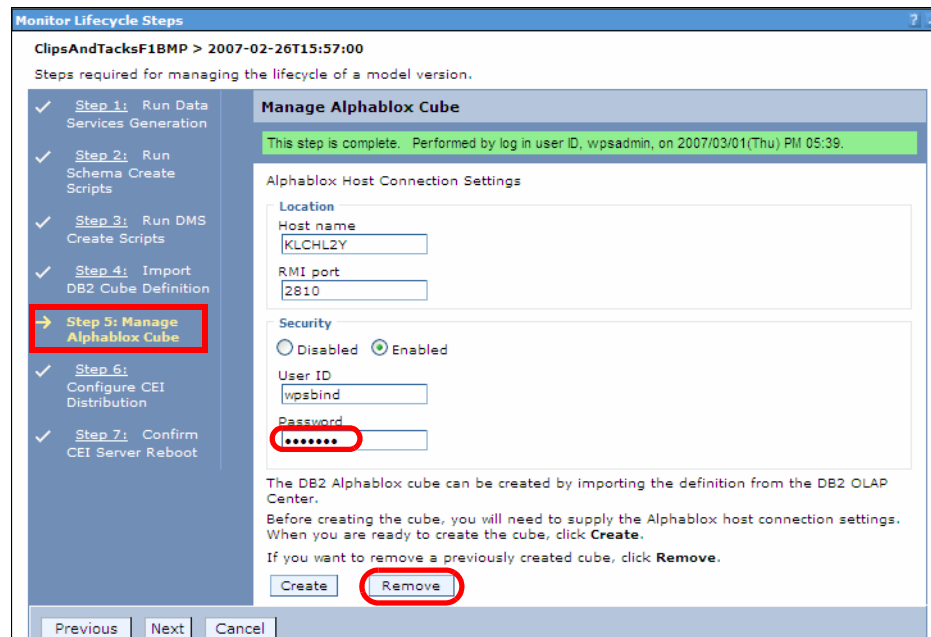

Figure 14-49 Monitor model undeployment: Removing the Alphablox cube(s)
- ▶ In step 5 of the setup wizard, re-enter the password for the Administrator on the WebSphere Application Server that the Dashboard Portal is using (wpsbind). Then click *Remove* (Figure 14-49). A message is displayed indicating that the Alphablox cube(s) were successfully removed.